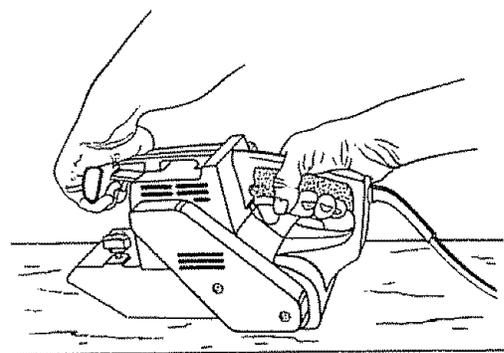

Fig 9
**▲ WARNING: UNSECURED WORK COULD BE THROWN BACK TOWARD OPERATOR CAUSING INJURY.** Before placing Sander on work surface, squeeze the trigger switch and let the motor reach its maximum speed, then lower your Sander to the work surface with a slight forward motion. Using the rear handle to control your Sander and the front handle only to guide it, move it slowly over the work. See Fig. 9. Allowing your Sander to remain in one place will result in an uneven surface.